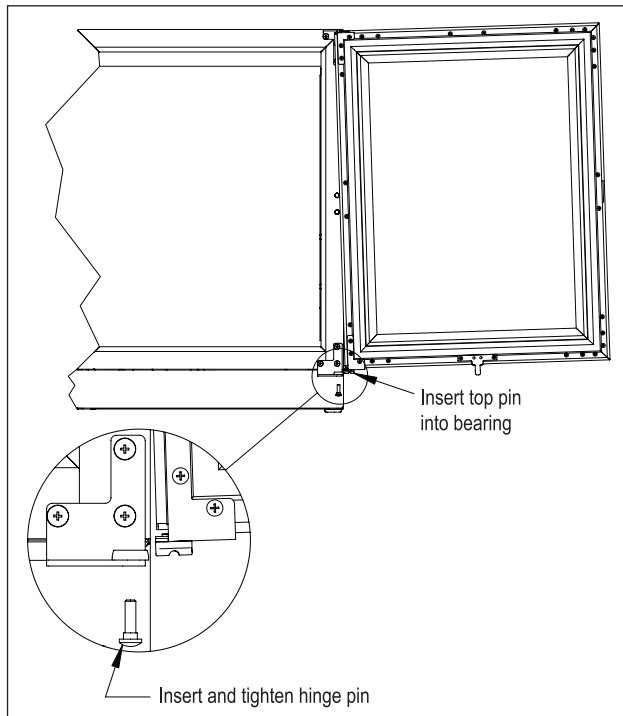

Figure 11: Installing Door
12. Lift door assembly and insert top pin into bearing. Move door toward cabinet and align V-blocks (Figure 11).